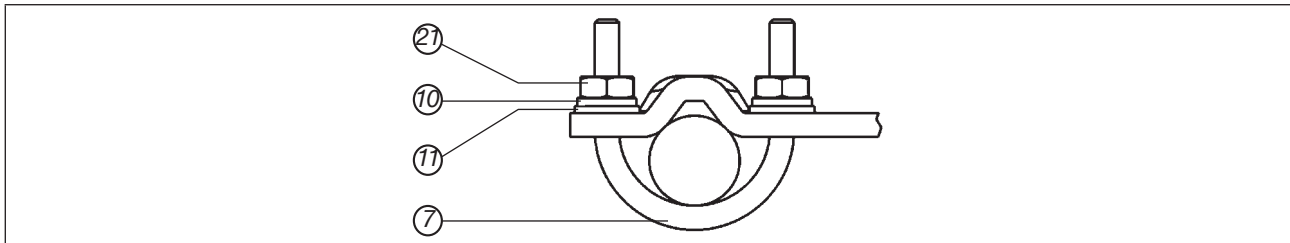

Figure 27: Attach positioner with mounting bracket; for actuators with columnar yoke
→ Attach mounting bracket to the columnar yoke with the U-bolt ⑦, washers ⑪, circlips ⑩ and hexagon nuts ② (see “Figure 27”).